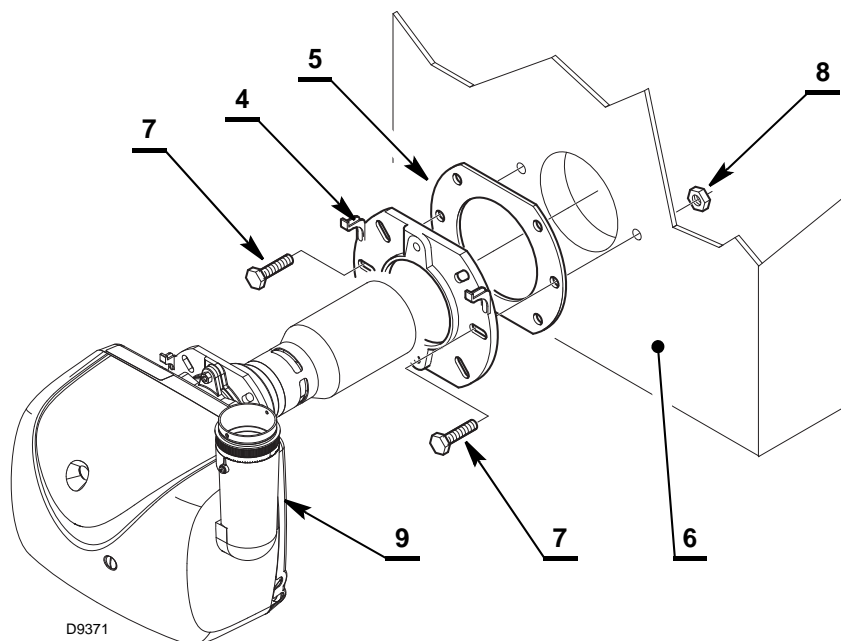

Fig. 7
- Fix the flange 4) to the boiler door 6) using screws 7) and (if necessary) the nuts 8) interposing the insulating gasket 5) (Fig. 7).
The combustion air supply is through a flexible or rigid pipe connected to the air intake 9) (Fig. 7).